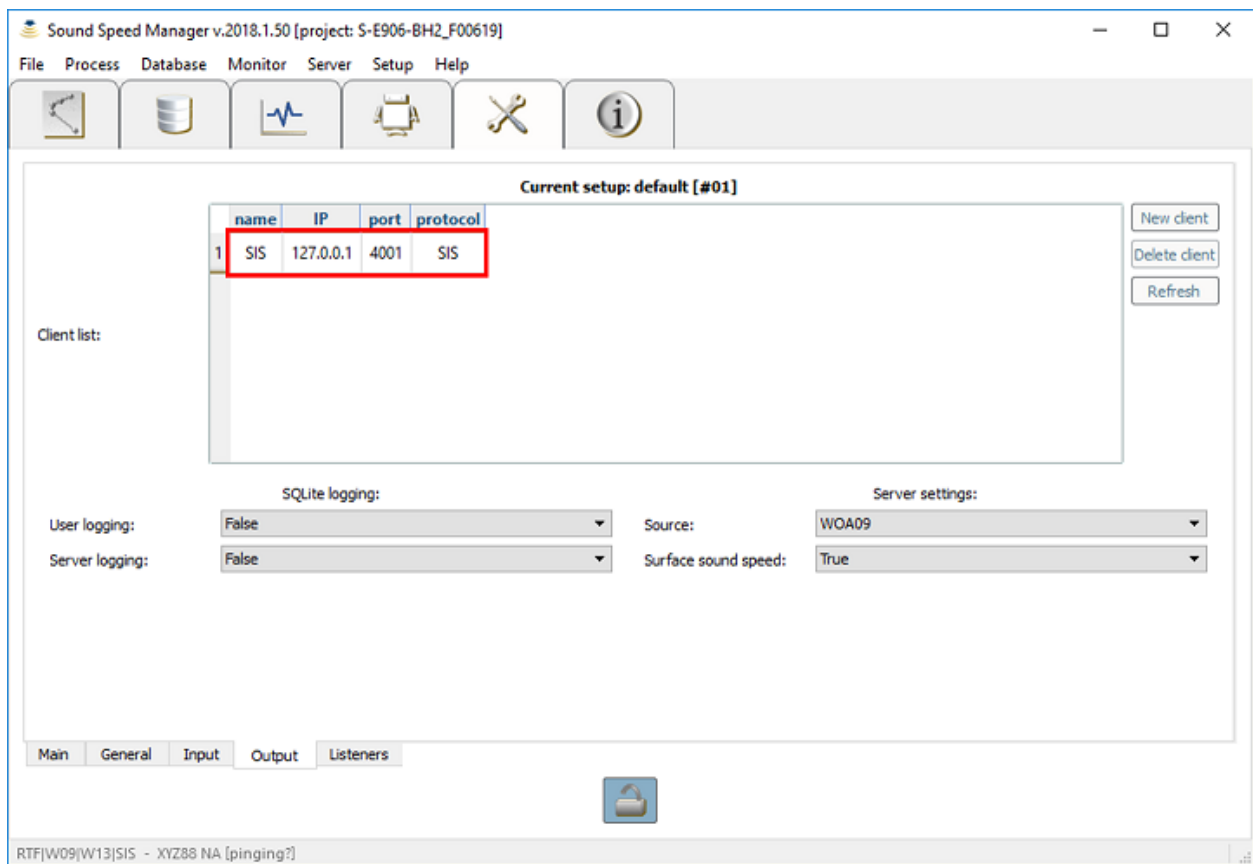

Fig. 2.7: *Sound Speed Manager Setup Output* dialog, with key settings in red for *Method A: Sound Speed Manager and SIS v4 Installed on the same Computer*.
- Under *Output*, you can leave the client list set to default, or create a new client with IP = 127.0.0.1, port = 4001, and protocol = *SIS* (see Fig. 2.7). These settings will tell *Sound Speed Manager* that *SIS* is on the same computer, and to send the CTD cast data to port 4001 (KM default).